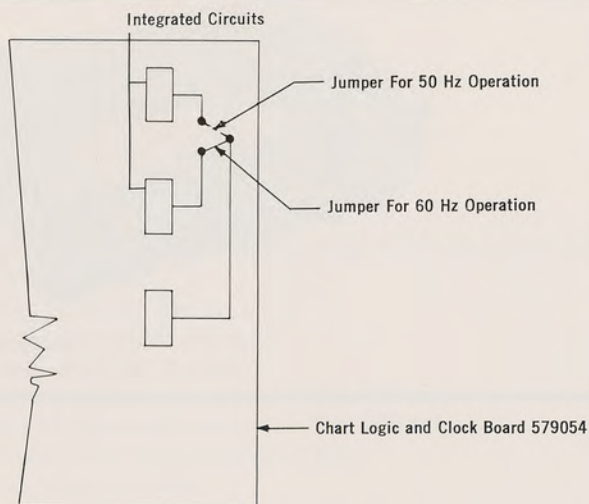

Figure 6. 579054 Chart Logic and Clock Board Integrated Circuits
5. Locate area shown in Figure 6 (upper right-hand corner of board). Change jumper as indicated in Figure 6.